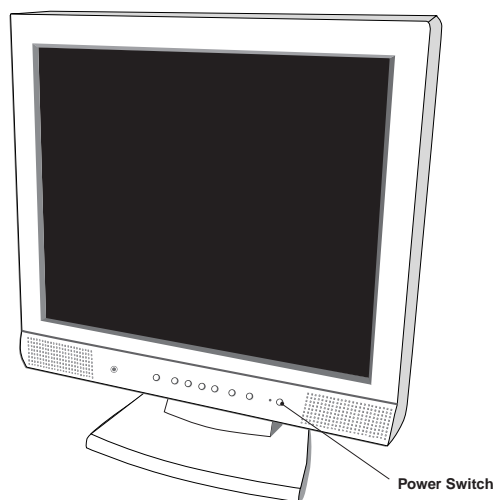

Figure F.1
7. Turn on the monitor with the front power switch (**Figure F.1**) and the computer.